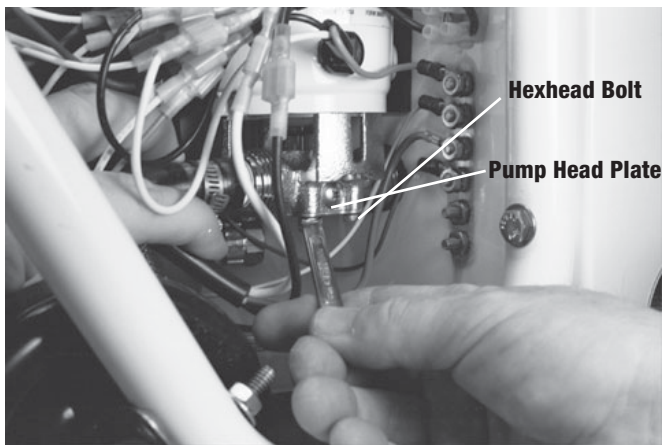

Figure 8
3. Use 1/4" wrench and remove the four hexhead bolts from the pump head plate (fig. 8).